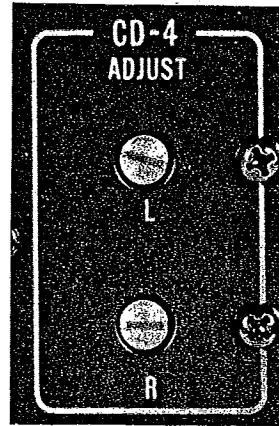

Fig. 8
2. Band 1. The adjustment of the left channel is done first. Tune the upper control (Fig. 8) of CD-4 ADJUST on the rear panel so that the volume of the rear left is as low as possible.